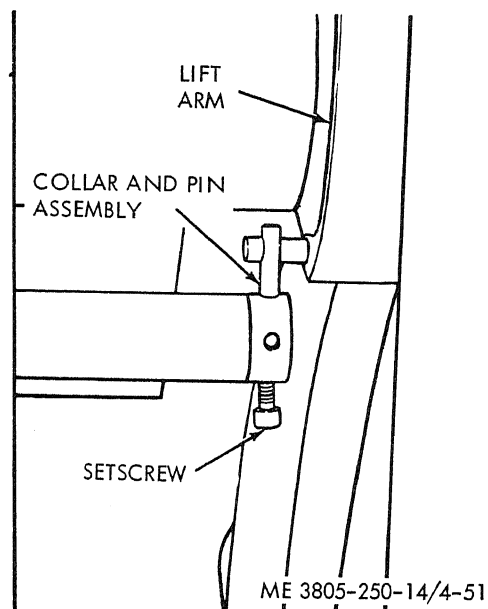

Figure 4-51. Bucket height kickout control adjustment.
(1) Raise the bucket to 7 feet above the ground in full dump position and block in position.
(2) Push the bucket height kickout control lever to the 7 foot position.
(3) Loosen the setscrew (fig. 4-51) and rotate the collar and pin assembly until contact is made with the pin on the lift arm. Tighten setscrew.
(4) Operate the bucket to check for proper adjustment.